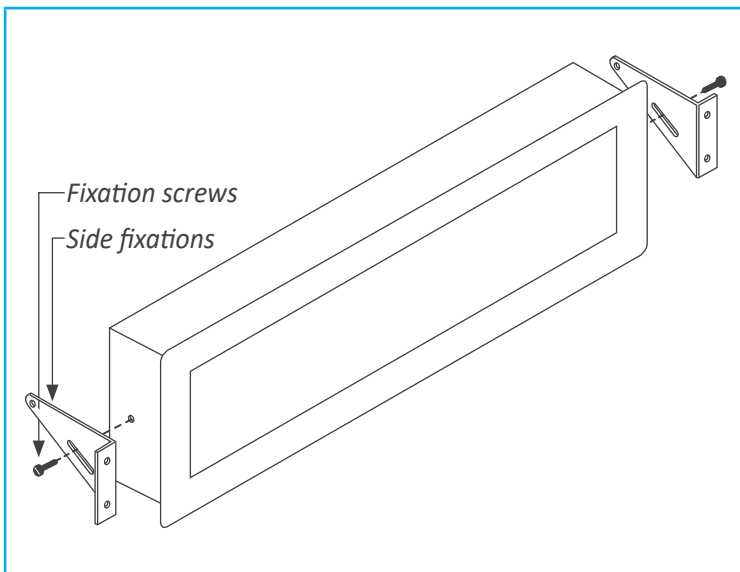

Figure 8 - Panel mount
- Panel mount. Apply the cut-out to the panel as seen on section 1.7. Remove the side fixations. Introduce the instrument into the panel cut-out. Mount the side fixations as shown (see Figure 8). Slightly loosen the fixation screw of one side and press the instrument against the panel. Tighten the fixation screw so it presses the panel and maintains the fixation. Repeat with the opposite side fixation.